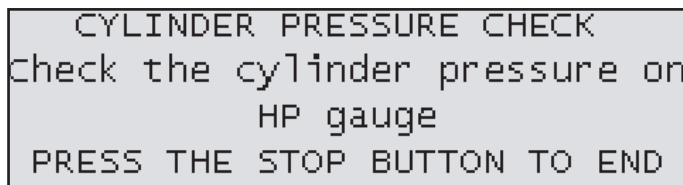

Fig. 24: Cylinder pressure check screen
- Screen will display message shown in Fig. 24.